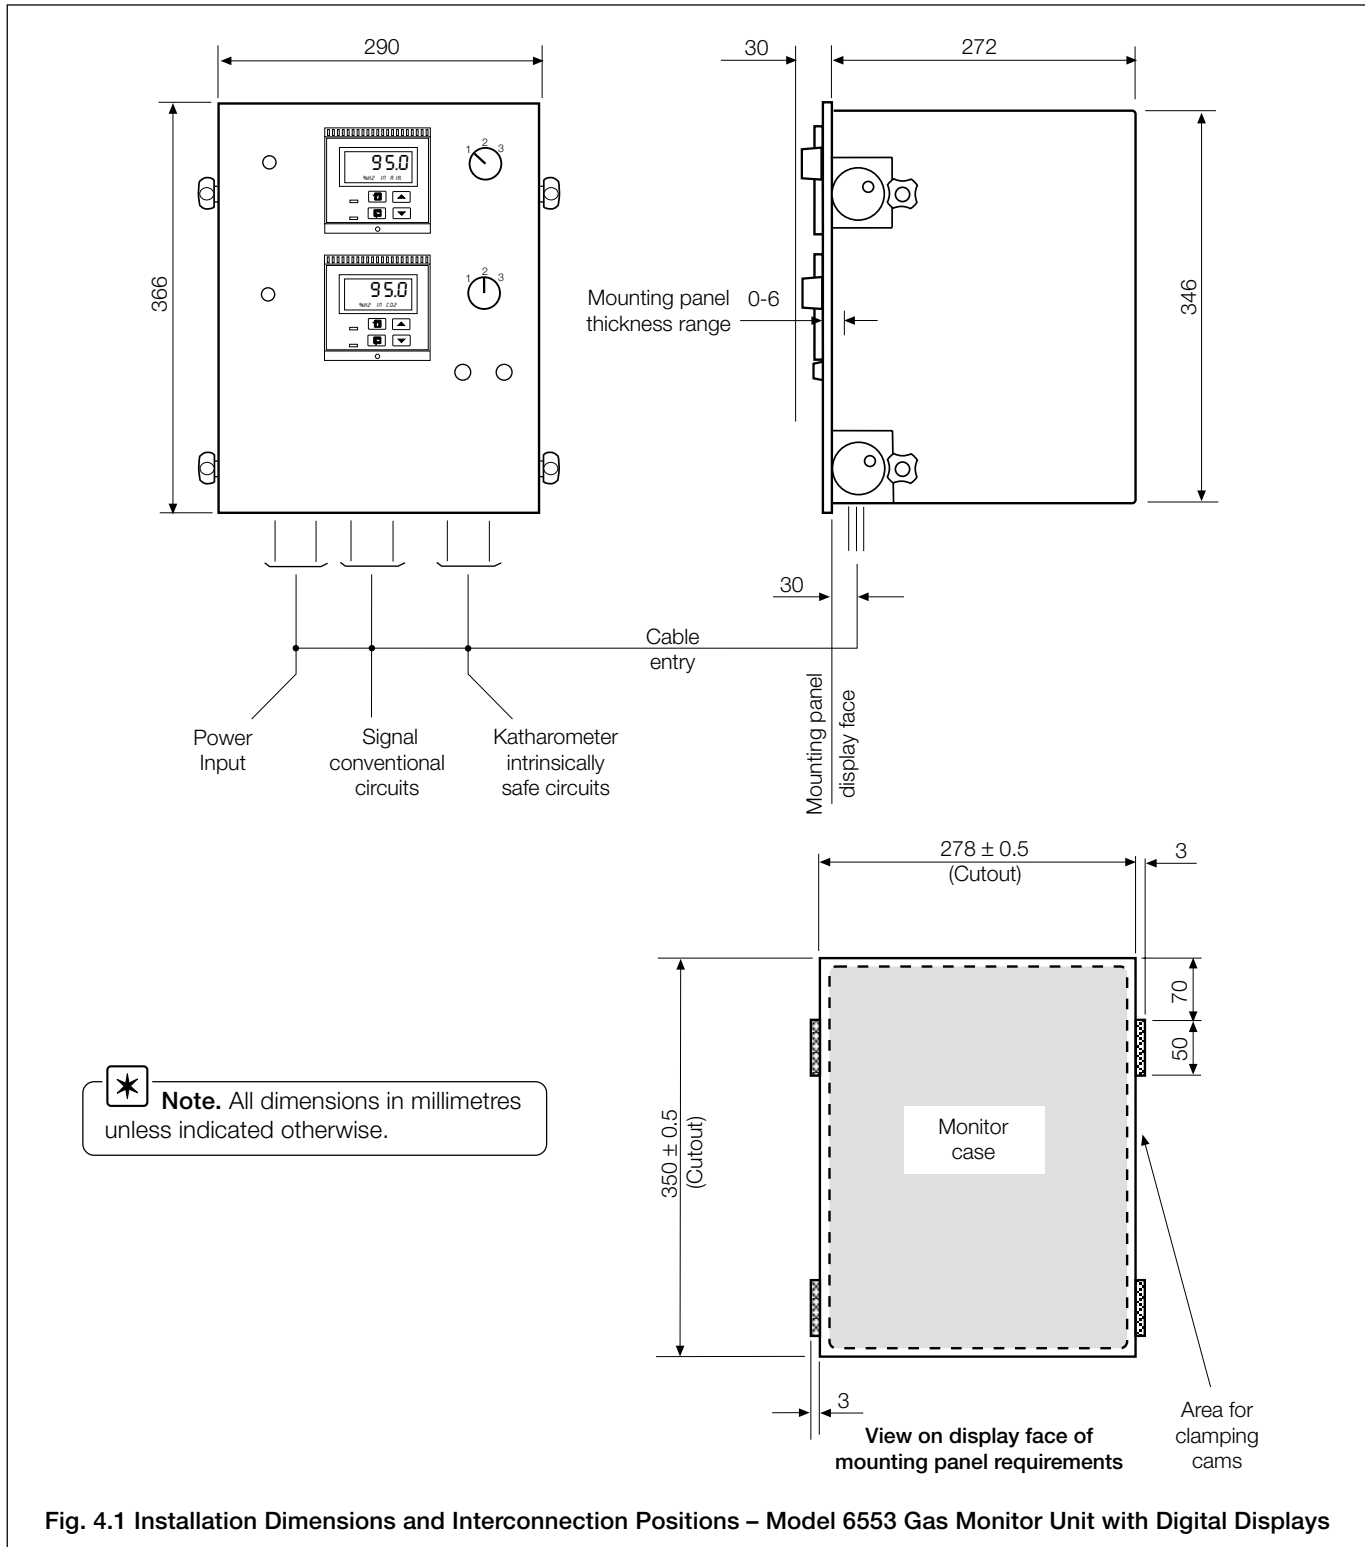

Fig. 4.1 Installation Dimensions and Interconnection Positions – Model 6553 Gas Monitor Unit with Digital Displays
4.1.1 Model 6553 Gas Monitor – Fig. 4.1
The monitor is intended to be panel mounted in a position to suit reading of the displays and with access to the rear to enable wiring interconnections to be made. The panel preparation requirements and installation dimensions are shown in Fig. 4.1. The monitor is secured to the panel by four adjustable cam brackets – two each side of the monitor chassis.